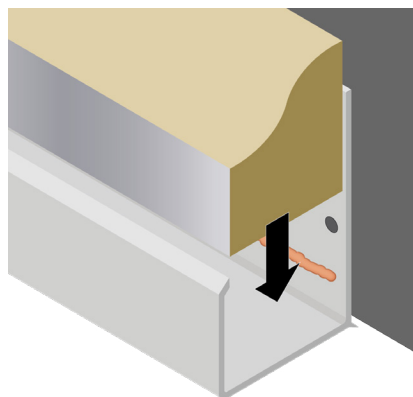

Figure 2.
5. Apply a 3/8" bead of sealant to the bottom flange of all J-Channel molding (Figure 2).